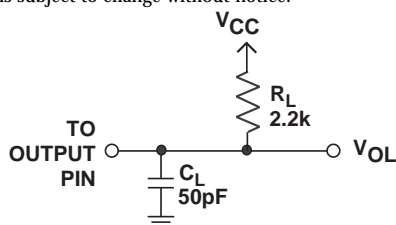

Figure 1a Load Circuit for BUSY Timing Diagram
- ⁵This is measured with the load circuit of Figure 1a.
⁵This is measured with the load circuit of Figure 1a.